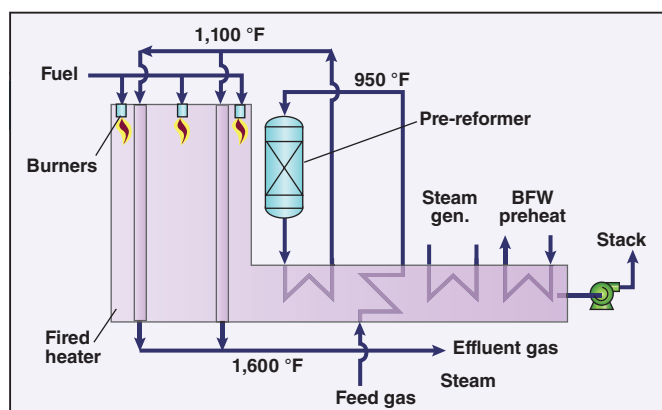

FIGURE 7. A pre-reformer breaks down heavier hydrocarbons into methane ahead of the reforming reactions
Pre-reforming Pre-reforming is used when spiking the feed with liquified petroleum gas, which is used to increase the capacity of the existing unit. Examining the reforming Equations (1), (2) and (4) reveals the advantage of a heavier feed that yields more hydrogen per feed mole. The pre-reformer reaction breaks down the heavier hydrocarbons (propane and butane) to methane ahead of the heat-intensive reforming reactions, essentially shifting part of the load upstream of the reformer heater as shown in Figure 7 [8].